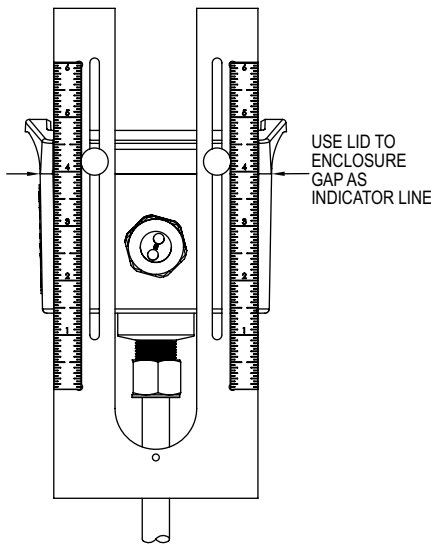

Figure 4
1. To prepare the meter for installation, mount the provided alignment scale to the side of the meter with the two provided thumbscrews. The thumbscrews are to be inserted through the alignment scale slots and into the holes in the side of the lid as shown in Figure 4, finger tighten only. Be sure to orient the alignment scale as shown in figure below. Actual scale setting determined in next step.
2. Locate the configuration tag attached to the Series IEF to identify the value of the alignment scale setting. Position the alignment scale such that the scale setting is lined-up with the seam of the enclosure as shown in Figure 4. Minor scale marks are in 1/20ths Securely tighten the thumbscrews.